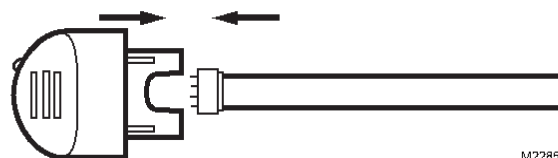

Fig. 3. Replace bulb in SnapLamp™ handle.
6. Insert the new bulb into the SnapLamp™ handle by aligning the notch and pushing straight together. See Fig. 3.